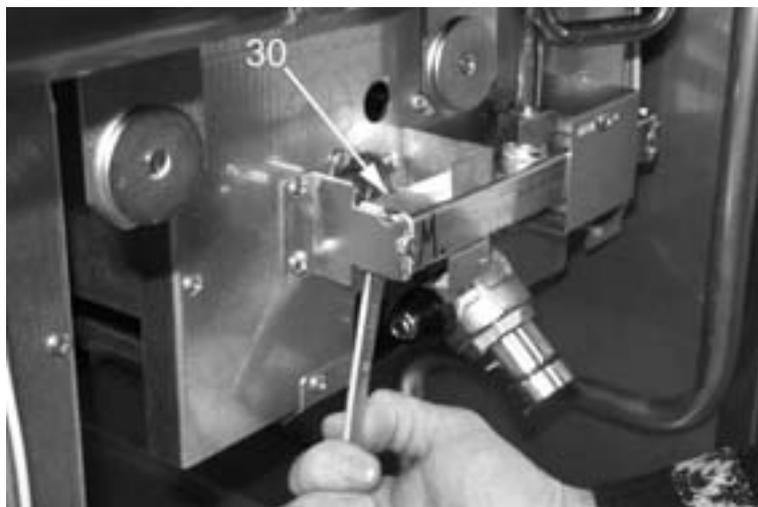

Fig. 14
2. remove the nozzle (item 30 in Fig. 14) and replace it with the nozzle shown in "Table 2: burner specifications";